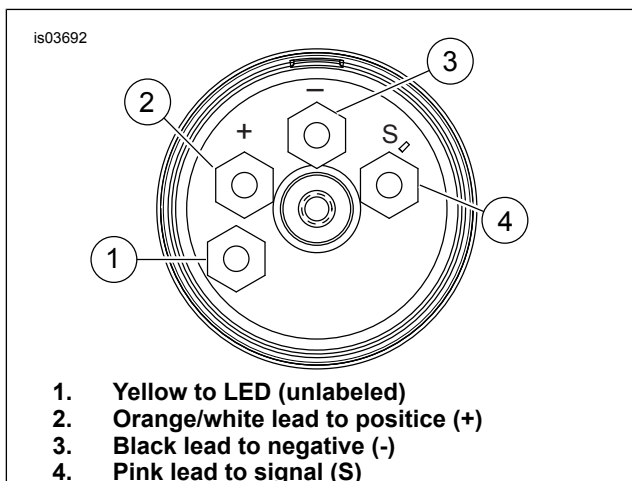

Figure 14. Gauge Terminals
- See Figure 14. Match wire colors to terminal posts on back of gauge:
- Orange (power) to positive (+) terminal (2).
- Black (ground) to negative (-) terminal (3).
- Yellow (power) to LED (unlabeled) terminal (1).
- Pink (analog) to signal (S) terminal (4).